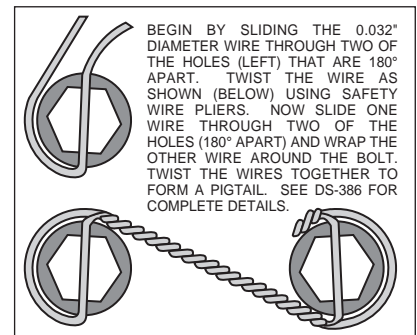
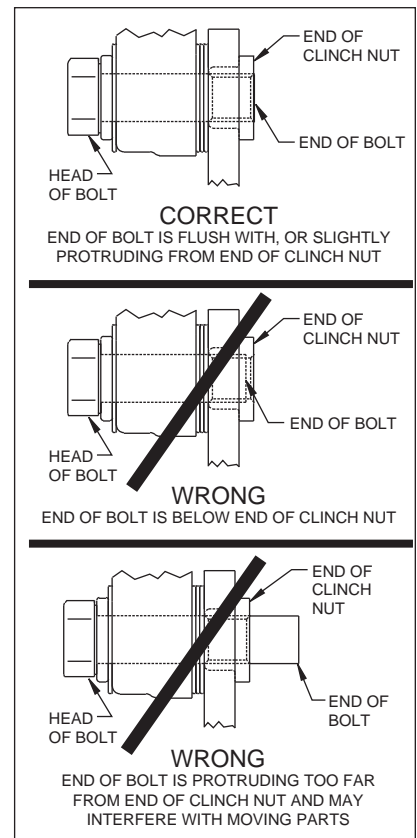

Figure 4. Safety Wire Diagram
Figure 5.
Assembly Instructions (numbers in parenthesis refer to the part list/diagram on the preceding pages): **CAUTION:** All mounting bolts must fully engage insert nuts. Be sure to check that all bolts are either flush or protruding through flanged side of insert nut after shimming, Figure 5.
- With the slot pointing upward and the mounting ears pointing towards the rear of the vehicle, install the caliper mounting bracket (1) to the housing flange using the stock Original Equipment Manufacturer (OEM) bolts and nuts. Stock OEM hex nuts that retain the bracket (1) should be on the wheel side of the bracket. Apply red *Loctite*® 271 to the stock OEM bolt threads and torque to OEM specifications. **NOTE:** Some brackets act as the bearing retainers, while others help locate the bearing in the axle housing flange. If the stock bearing plates are still on the axle, the caliper mounting brackets (1) should be located between the axle housing flange and the bearing retainer plate. Make sure the heads of the caliper mounting bracket insert nuts are FACING OUTWARD TOWARDS THE WHEEL.
- Bolt the hat (2) to the rotor (3) using washers (4) and bolts (5). Torque bolts (5) to 180 in-lb. Safety wire bolts (5) using standard 0.032 inch diameter stainless steel safety wire as shown in Figure 4. Please refer to Wilwood's data sheet DS-386 (available at www.wilwood.com/Pdf/DataSheets/ds386.pdf) for complete safety wire installation instructions.
- Align the correct hole pattern in the hat (2) with the stud pattern on the axle flange. **NOTE:** Some OEM and after market axles come with stud sizes larger than 0.50" diameter. Verify stud size and have a qualified machine shop drill the hats to the correct size. Slide the hat/rotor assembly (2 and 3) over the wheel studs and against the axle flange face.
- NOTE:** Please reference the caution statement at the beginning of the assembly instructions. WITH THE BLEED SCREWS POINTING UP, mount the caliper (6) over the rotor (3) and onto the caliper mounting bracket (1) using washers (7) and mounting bolts (8). View the rotor through the top opening of the caliper. The rotor should be aligned in the center of the caliper. If not, adjust the caliper by using 0.032 inch shim washers (9), placing them between the caliper mounting bracket (1) and the caliper (6). Add as many shim washers (9) as necessary to achieve the correct alignment. **NOTE:** The end of the bolt must be flush with or slightly protruding from the head of the clinch nut. See Figure 5. Place spare shims (9) between washer and caliper mounting ear to achieve the proper mounting fastener configuration. Always use the same amount of shims on both the top and bottom caliper mounting bolts (8). Apply red *Loctite*® 271 to the mounting bolt threads (8), torque bolts to 30 ft-lb. Safety wire the caliper mounting bolts (8).
- Position the Wilwood disc brake pads (10) into the caliper (6) and fasten with cotter pin (11). Steel backing plate side of brake pad should face the caliper pistons.